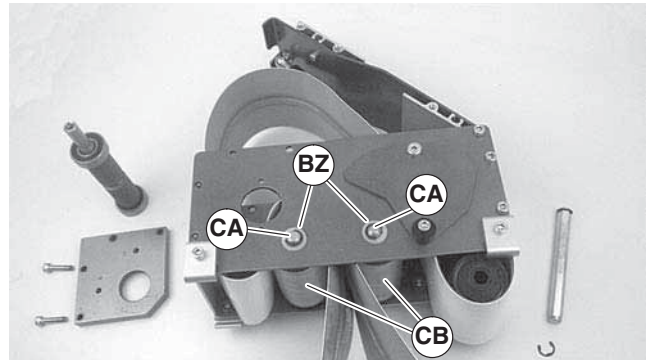

Figure 46
- For 2” (44 mm), 3” (70 mm) or 4” (95 mm) wide conveyor, detach E-ring clips and remove washers (Figure 46, item BZ). Remove pulley shafts (CA) and pulleys (CB).